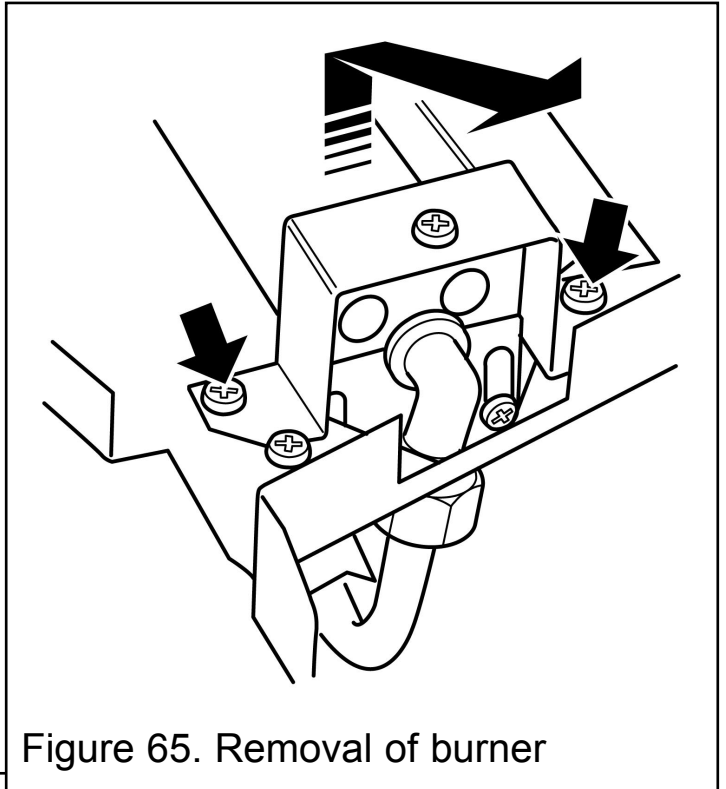

Figure 65. Removal of burner
See figure 65.
3. Remove the two screws from the burner clamping plate (See figure 65)